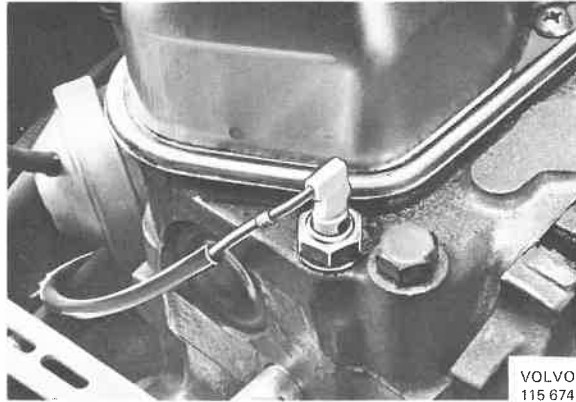

Fig. 38-13. Sender for engine temperature gauge
If the engine temperature gauge, see Fig. 38-12, gives incorrect temperature or no temperature at all, then the fault may lie in the instrument, its sender (see Fig. 38-13) or in the cables. The first thing to check is that there is good contact between the various instrument and sender connections and that the instrument is properly wired to the vehicle chassis.
2. Remove the sender, see Fig. 38-13, with gasket.